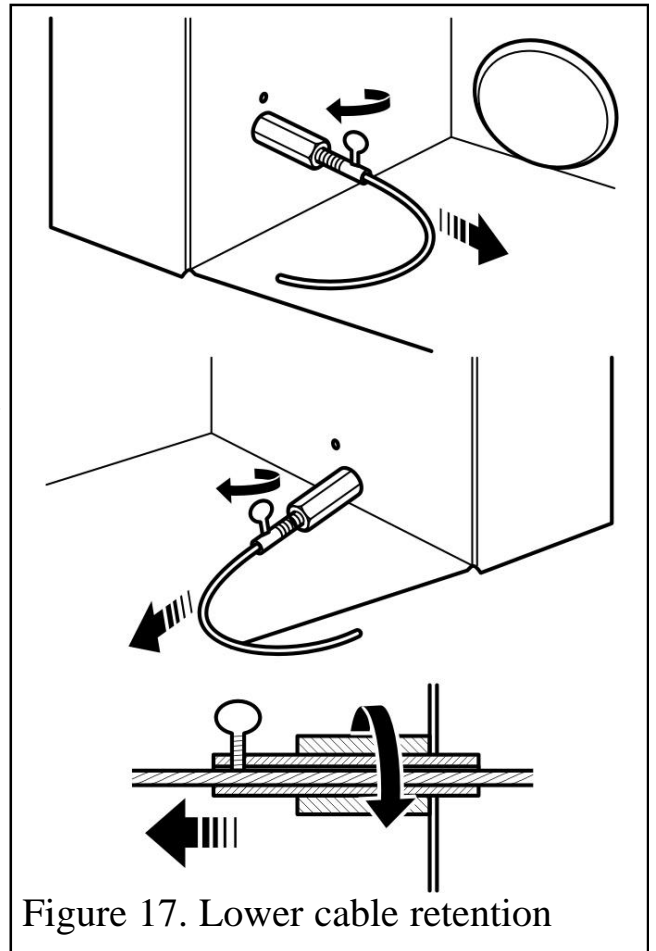

Figure 17. Lower cable retention
6. Thread the cables through the eyebolts. Return the cables through the holes near the bottom of the hotbox side panels (See figure 17).
9. Pull each cable taut. Push the cable retainers hard up against the side panels. The end of the cable adjuster will pass into the hole. Tighten the screws in the retainers so that they clamp the cables in position. Apply tension to the cables by turning the hexagonal adjusters by hand (See figure 17).